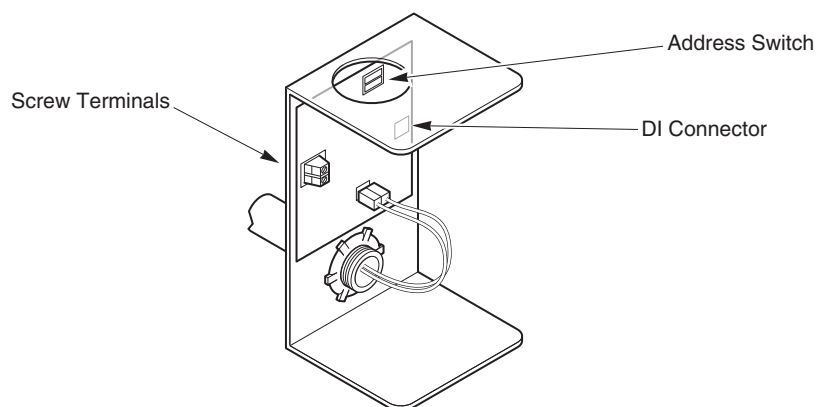

Figure-3 Internal View of MN-SDT.
2. Connect the wires to the screw terminals (Figure-3). No polarity maintenance is required.
3. If used, connect two wire nuts to join the MNA-STAT-4 connector leads to the DI field wiring. Connect the MNA-STAT-4 Digital Input Connector Assembly to the Digital Input (DI) connection.
1. Locate the address switch on the top of the circuit board inside the MN-SDT transmitter (Figure-3).